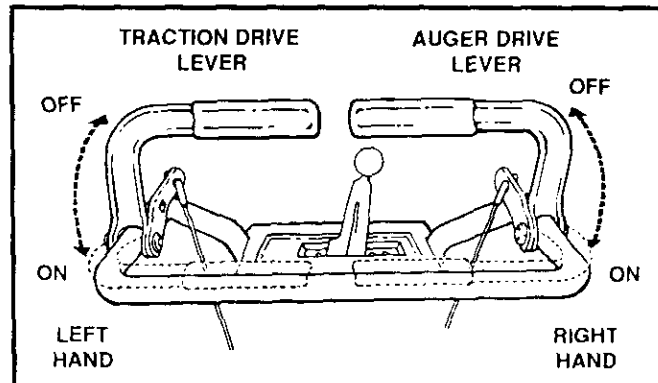

FIG. 4
- To stop throwing snow, release the auger drive lever (See FIG. 4).
- To stop the traction drive, release the traction drive lever. (See FIG. 4)
- Engage the traction drive lever (See FIG. 4, left hand). As the snow thrower starts to move, maintain a firm hold on the handles, and guide the snow thrower along the clearing path. Do not attempt to push the snow thrower.
- Push down the auger drive lever (See FIG. 4, right hand).